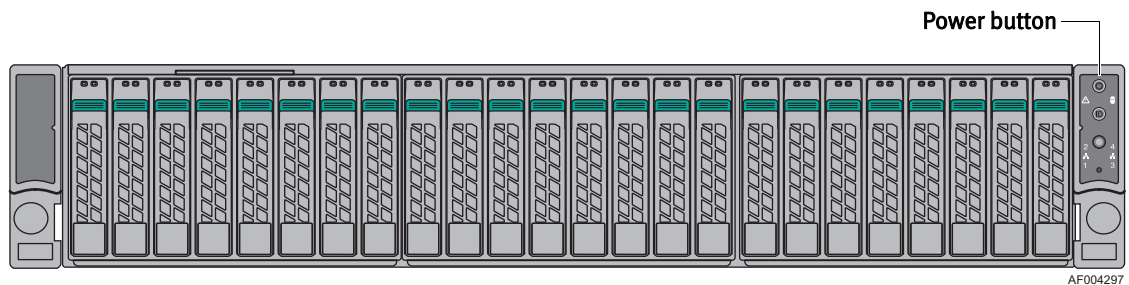
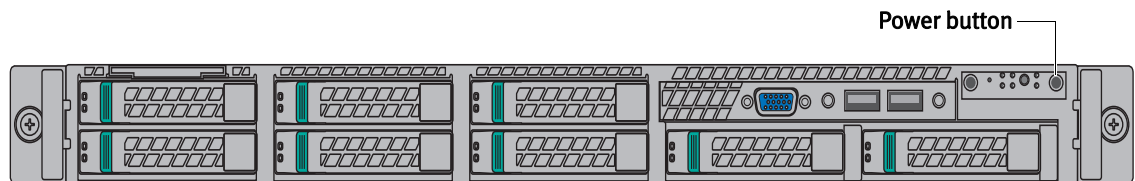

Figure 61 Location of power button on a GPDB server (applies also to Hadoop Masters & Workers)
Figure 62 Location of power button on a Master, DIA, and Hadoop Compute servers
- Verify that the green LED on the power button on each server turns off after 1-2 minutes (see Figure 61 and Figure 62).